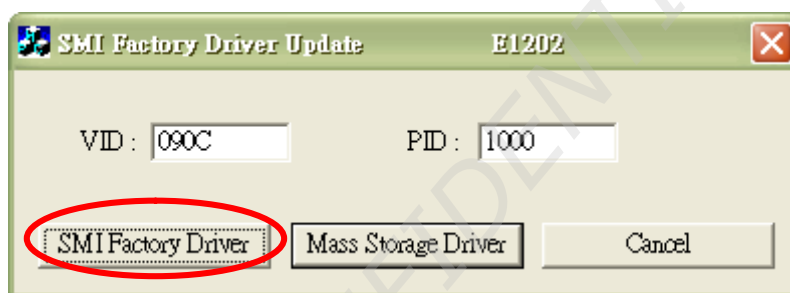

Fig. 7 The installation for Specific USB storage device driver.
Step 3 、 According to your OS version, ran the specific USB storage device driver existed in the 「winXP」、 「Win2000」 or 「win98\_factory\_driver」 directory, and press the 「SMI Factory Driver」 button for driver installation as Fig. 7. If you want to remove the specific USB storage device driver, press the 「Mass Storage Driver」 button in the Fig. 7. The driver will become the system default and this application program will not support exactly.